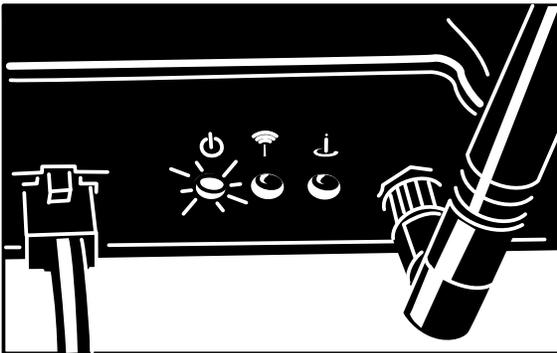

Figure 10
2. Ensure that the power light illuminates (Figure 10).